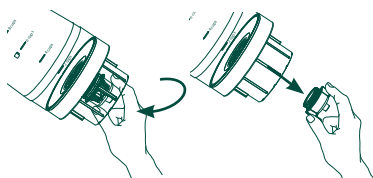

Figure: 2
- 3** Unscrew the charcoal water filter Cartridge, located on the bottom of the water reservoir, by rotating the winged cap counter-clockwise 90° with your hand. See Figure: 2